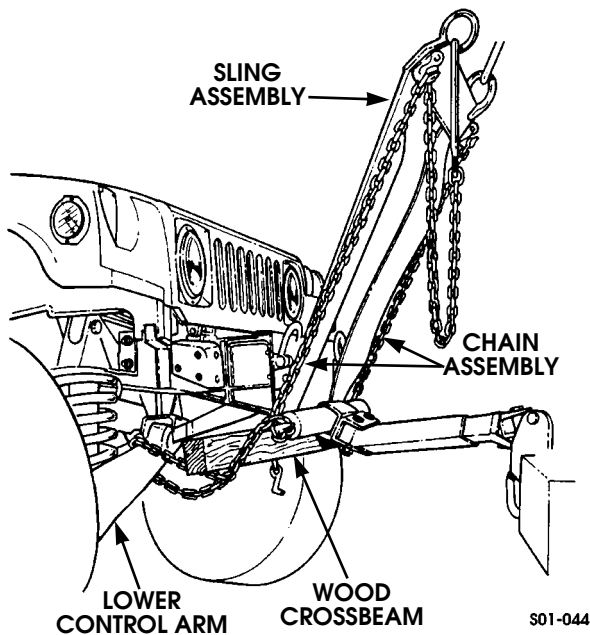

Figure 1-16: Front Towing With Conventional Equipment
1. Loop chains around lower control arms and secure to tow sling (Figure 1-16).
2. Insert 4" x 4" x 48" length of wood between bumper and sling chains (Figure 1-16).